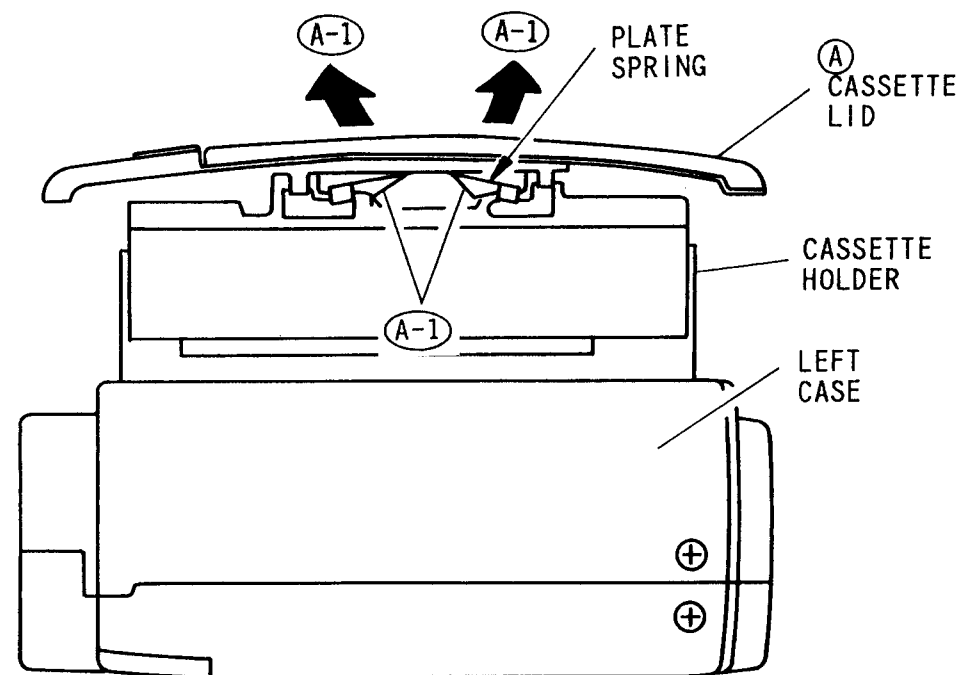

Fig. 3-1
A. Cassette Lid (Figs. 3-1, 3-2)
- 1) Release tabs of the plate spring on the cassette lid in the direction of the arrows. (Fig. 3-1)